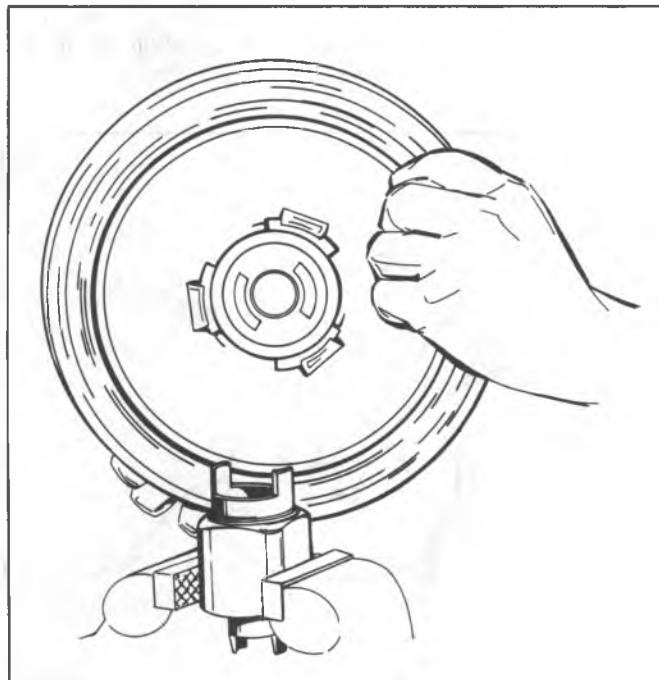

Fig. 5-4A--Positioning Secondary Power Piston in Tool J-23101
2. Mount double-ended Tool J-23101 (with large diameter end up) in a vise. Position the secondary power piston so that the two radial slots in the piston fit over the ears (tangs) of the tool (fig. 5-4A).
22. Mount Tool J-23101 (with large diameter end up) in a vise. Position the secondary power piston so that the radial slots in the piston fit over the ears (tangs) of the tool. Apply a light coat of silicone lubricant to the tube of the secondary power piston (fig. 5-4A).